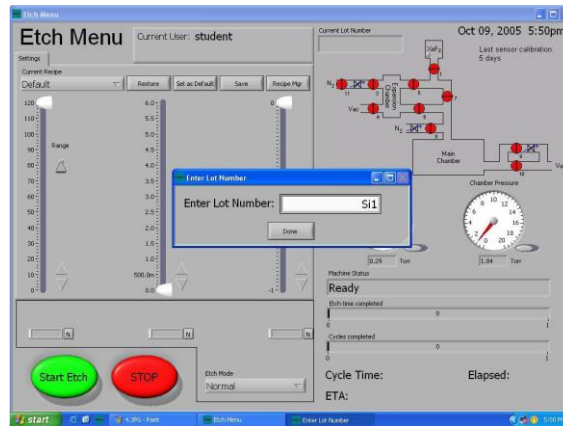

Figure 3
9. From the main screen (Figure 1), click on **Etch Menu**. This opens up the **Etch Menu** screen shown in Figure 3.